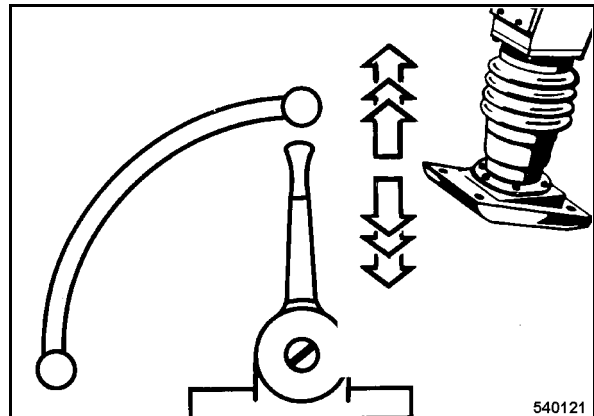

Fig. 20
- Set the throttle lever (Fig. 20) to position "MAX".